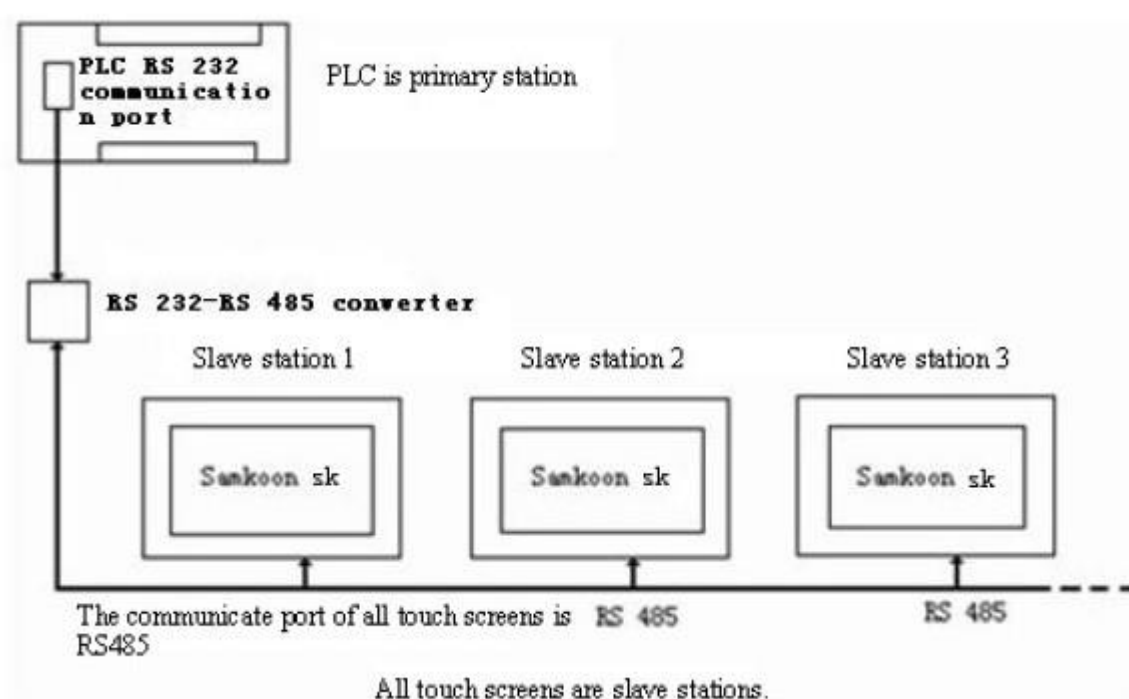

Figure 8-1 Sketch map of “One machine with multiple machines” when PLC(RS232) is Master station
1. The communication port of the PLC connected is RS232; connection methods and system settings are as shown in Figure 8-1, 8-2 and 8-3 :